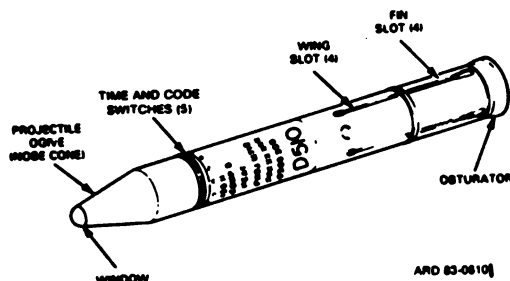

Figure 211.42. Projectile, 155mm, HEAT, M712
a. M712 cannon-launched, guided projectile (fig. 211.42) is a terminally guided system launched from the M114A2 howitzer into a ballistic trajectory. During flight, the target is illuminated by a laser beam from a laser designator. An onboard computer continuously refines the terminal trajectory and provides guidance to the control surfaces, causing the round to home in on stationary or moving hard-point targets. The M712 projectile is fired in the same manner as conventional projectiles.